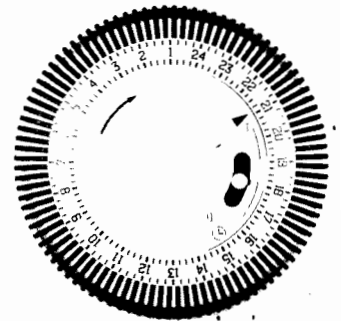

Fig 3
- ☐ Rotate the clock actuator mechanism clockwise, by hand, until the arrow indicates the current time, see figure 3. In figure 3 the current time is set at 21:05.
The clock shown in figure 3 is set as follows:
- 1 (Up) position: The boiler is controlled by the function switch (Item 1 in Figure 3) independent from clock tappets.